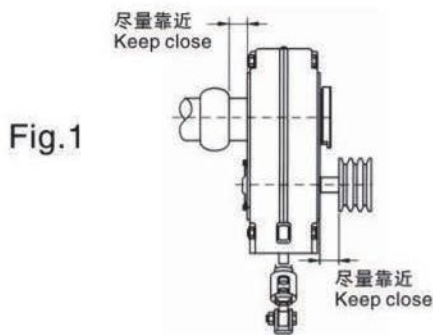

Fig.1
- 1、输入轴上的皮带轮安装时尽可能的靠近减速机，安装减速机到被驱动机时也应该使减速机尽可能的靠近被驱动机，若安装得太远会使减速机的轴承承受较大的径向力，造成轴承的过早损坏（如图1所示）。
1. Install pulley on gearbox input shaft as close to the reducer possible, and mount reducer on driven shaft as close to bearing as practical (see figure 1). Failure to do this will cause excess loads in the input shaft bearings and output bearings and could cause their premature failure.